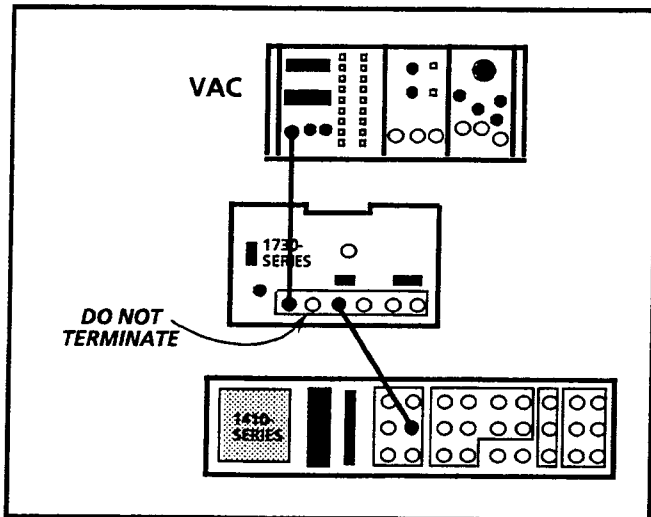

Fig. 5-6. Equipment hook-up for checking vertical gain.
- a. Connect the Video Amplitude Calibrator (VAC) to the CH-A INPUT. Connect the linearity output of the television test signal generator to the CH-B INPUT. Do not terminate either loop-through. See Fig. 5-6.